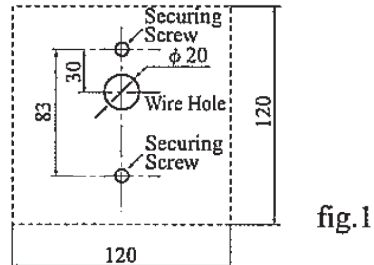

fig.1
2. Drill 3 holes in the wall as shown in fig. 1, one for the cable and two for the securing screws. Ensure holes are drilled deep enough. Fit wall plugs if needed. (ensure controller is level.)